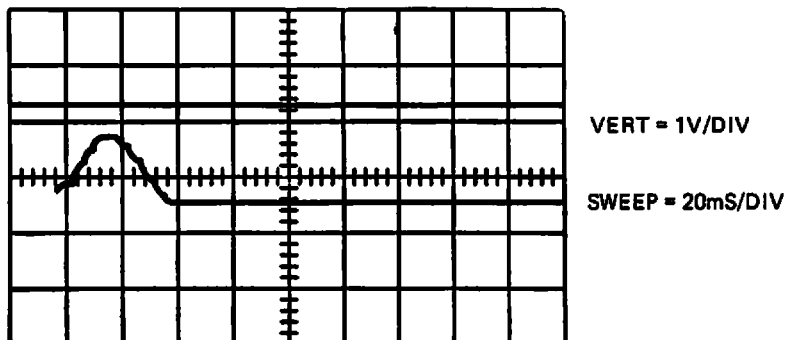

Figure 3-27. R Wave.
7. Adjust the trigger sensitivity so that the sweep trigger does not trigger on the P-wave but triggers on the positive slope of the R-wave as shown in Figure 3-27.